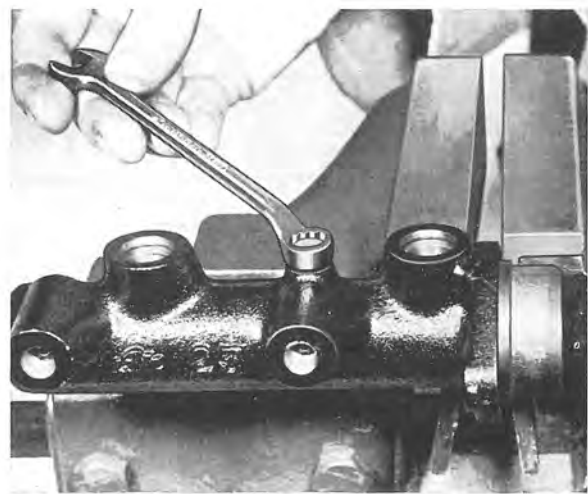

Fig. 5-47. Removing stop screw
3. Unscrew the stop screw (Fig. 5-47). Remove the circlip from the primary piston with the help of circlip pliers. Remove the pistons.